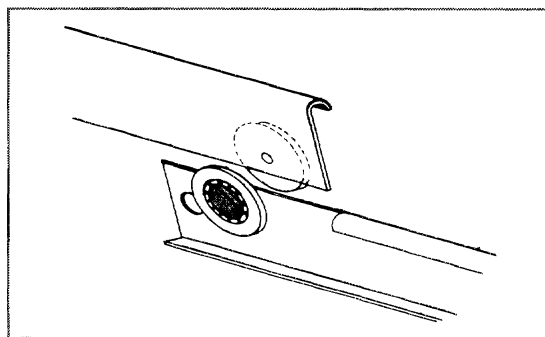

FIGURE 2
1. Place the set of rollers on the drawer behind the set of rollers on the oven. (As shown in figure 2)